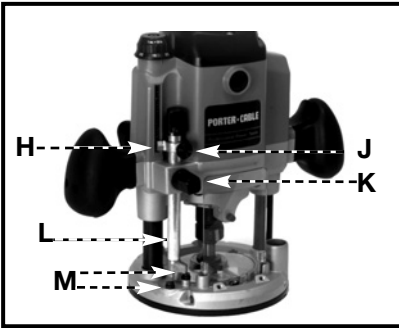
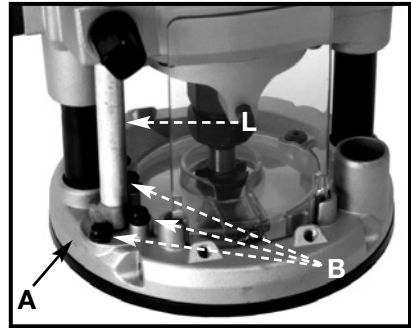

Fig. 11
Fig. 12
1. Loosen depth rod locking knob (K) Fig. 11, and depth indicator knob, (J) Fig. 11, allowing the depth rod (L) Fig. 11 to contact one of the depth stops (M) Fig. 11. Normally the deepest cut is set with the depth rod (L) Fig. 12 resting on the base casting (A) Fig. 12. Adjust the three adjustable stops (B) Fig. 12 to any desired height to allow stock removal in steps. This action or the various depths that may be required for a particular job.
3. Tighten the depth rod locking knob (K) Fig. 11.
4. Position the depth indicator (J) Fig. 11 at "O" position and tighten knob.
5. Loosen the depth rod locking knob (K) Fig. 11, and raise the depth rod until the indicator aligns with the graduation representing the desired depth of plunge (The example in Fig. 13 shows the setting for 1" plunge). Tighten the depth rod locking knob.